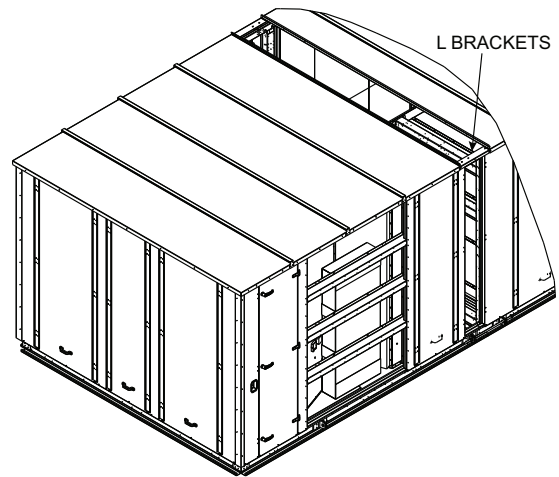

Fig. 42 — L Bracket Installation
13. Install L brackets, top cover and top cap joining main unit section and return section top cover assemblies. See Fig. 42 and 43.